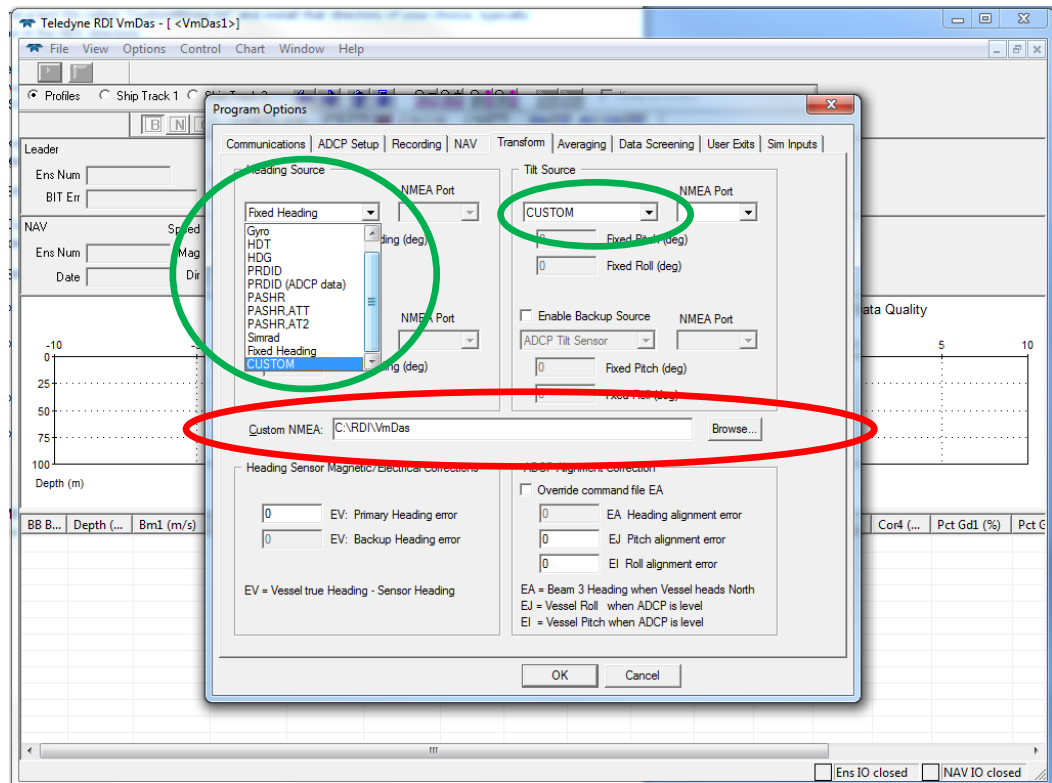

Figure 32. Using the Custom NMEA Feature
- Click the drop down menu for the **Heading Source** and/or **Tilt Source** and select **CUSTOM** (see the green circles on Figure 32).
- Set the path for the *CustomNmea.txt* file you created in Step “a” (shown in the red circle on Figure 32).